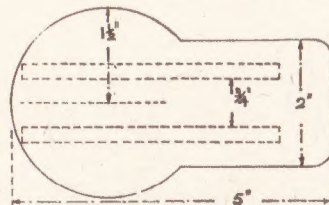

Fig. 3—Plan of the thrower
An admirable idea of this is got from the sketch, and from the view of the finished thing in Fig. 2. There is a base piece (A) of which a plan is given in Fig. 3, with all necessary measurements for drawing out the outline on the wood.